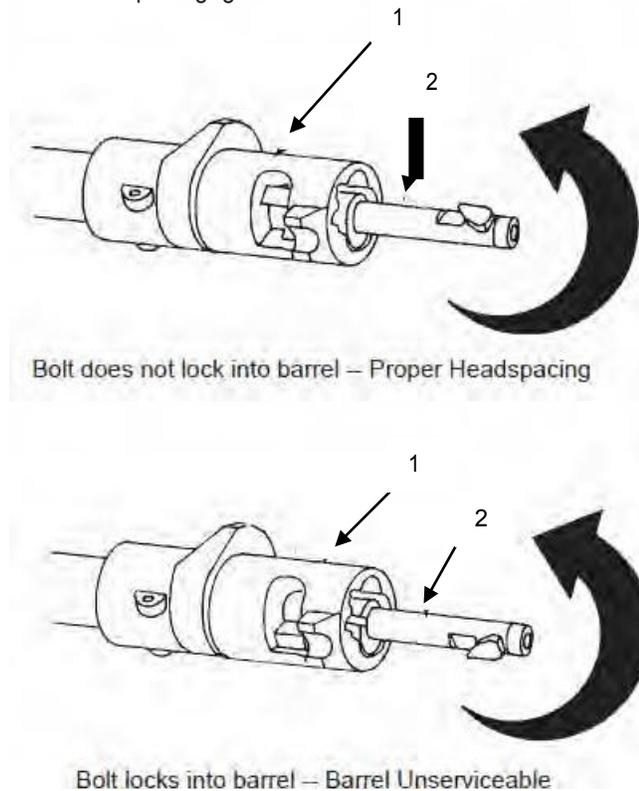

Figure 14. Checking for Unserviceable Barrel.
- f. If bolt is not defective, repeat head spacing using NEW Bolt (Figure 14, Item 2) and OLD barrel (Figure 14, Item 1). If headspace is still incorrect (bolt locks into barrel) the barrel is unserviceable and should be replaced.